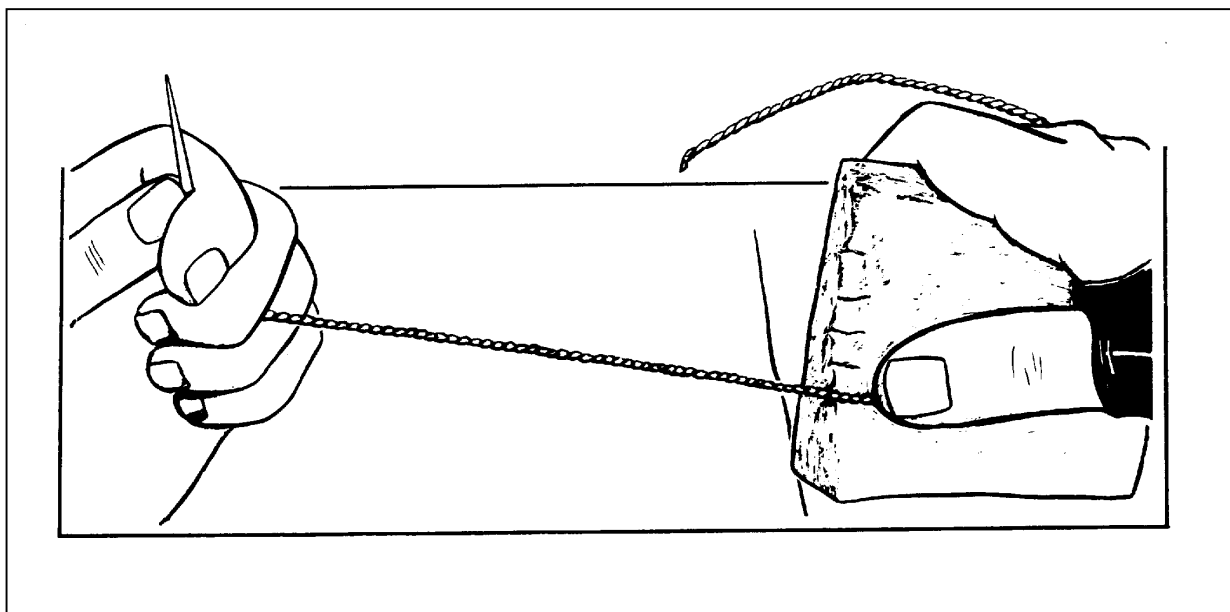
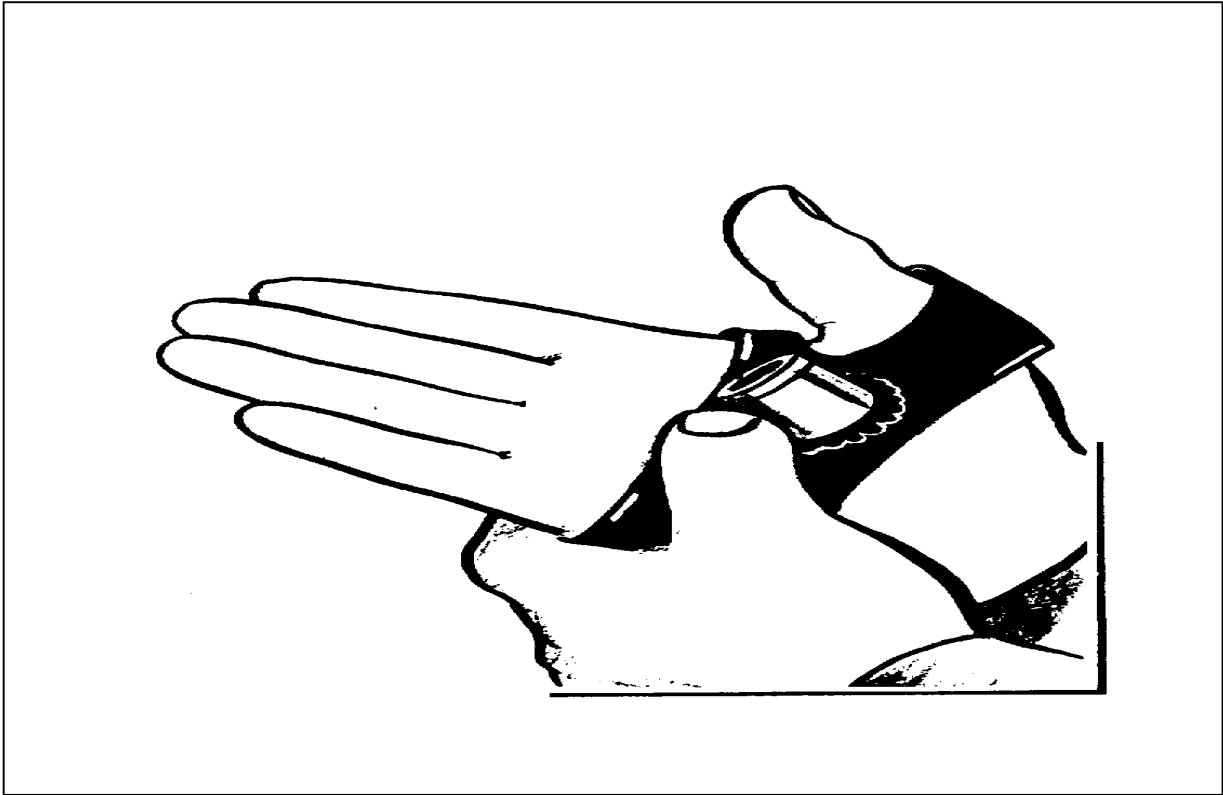

Figure 7-4. Rewaxing thread
Figure 7-5. Putting on a sewing palm
d. Rewaxing the Thread. The fabric repair specialist rewaxes the thread for added protection. To rewax the thread (Figure 7-4)--
- (1) Hold the thread near the needle firmly with one hand.
- (2) Grasp a section of thread with the fingertips of the other hand, and twist the strands together.
- (3) Rub this section across the surface of the beeswax.
- (4) Repeat these steps until the entire length of the thread has been rewaxed.
e. Putting on the Sewing Palm. The fabric repair specialist wears a sewing palm to protect the hand while sewing with the sailmaker's needle. The palm has a metal inset which is used to push the needle through canvas or webbing. To put on a sewing palm (Figure 7-5)--
- (1) Grasp the sewing palm with the left hand so that the smaller (thumb) opening is on the right and the metal inset is facing up.
- (2) Turn the right hand so that the palm is facing up.
- (3) Slip the four fingers of the right hand through the larger opening, and slip the thumb through the smaller opening.